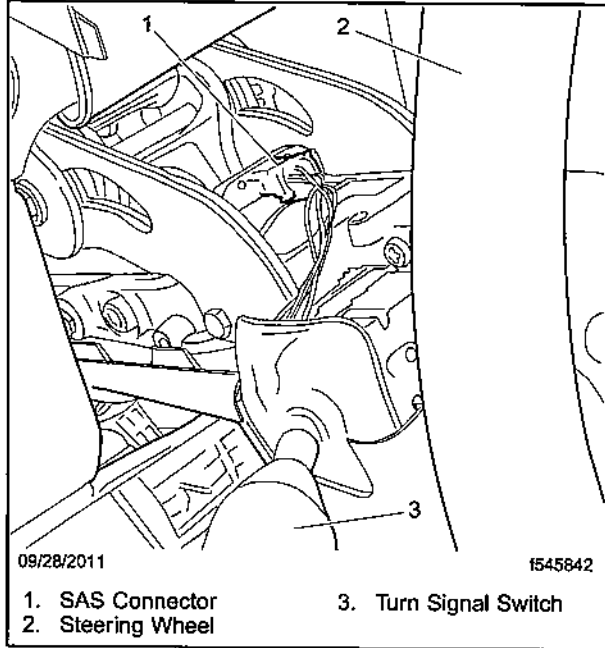

Fig. 1, SAS Connection (Cascadia, Century S/T, Columbia, and Coronado)
- 1.1 On Cascadia, Century S/T, Columbia and Coronado vehicles, tilt the steering column to its lowest position, then remove the upper steering column cover to access the SAS. See Fig. 1.